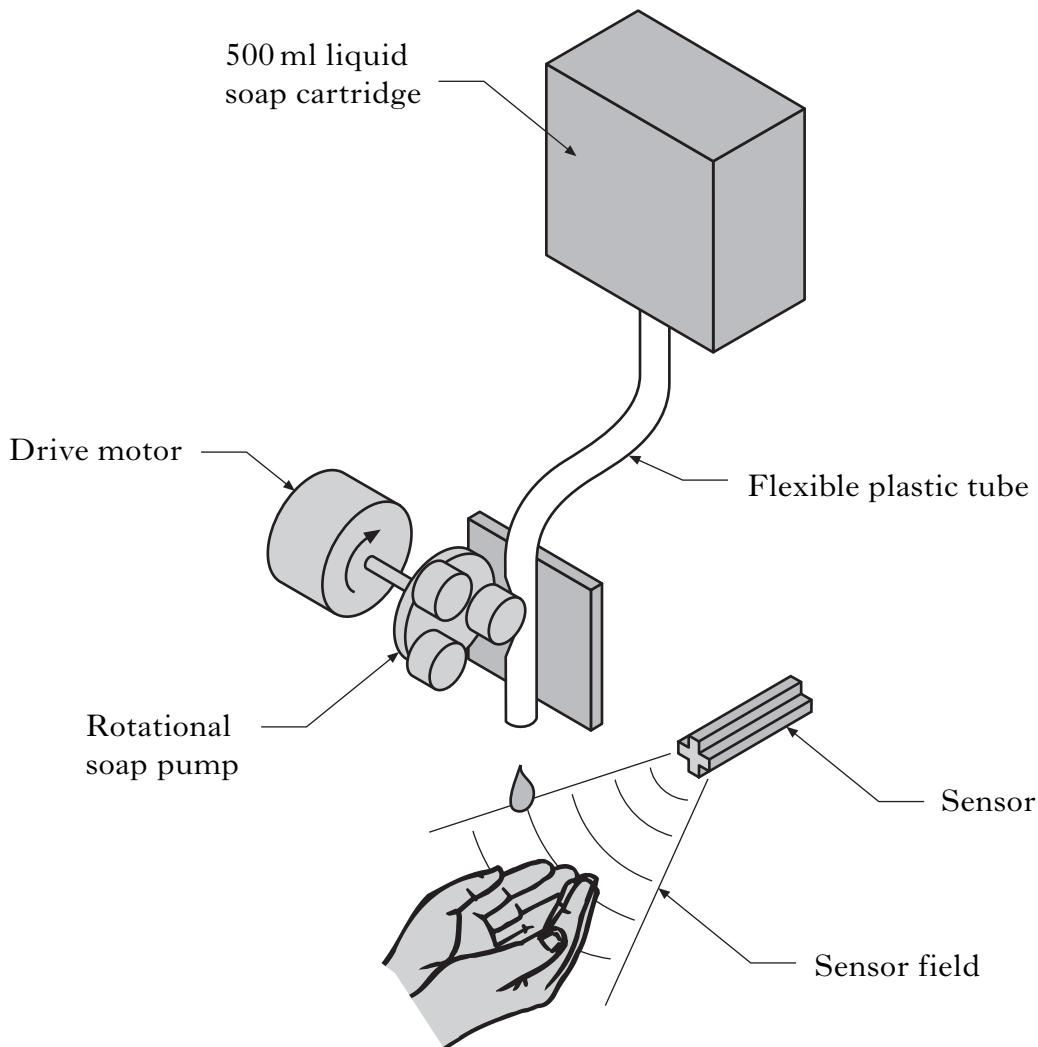

Figure Q9
- (5)**
9. Figure Q9 shows a schematic diagram of an automated liquid soap dispenser. When a hand is sensed in the sensor field, 5 ml of liquid soap is dispensed.